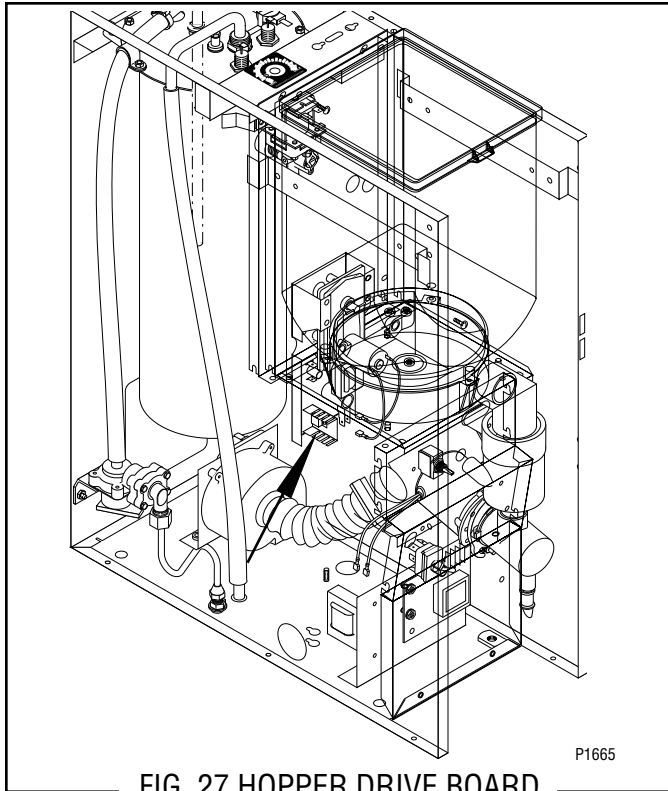

FIG. 27 HOPPER DRIVE BOARD
6. Pull the frother (6) off the motor shaft. Notice the flat side on the shaft and the matching flat inside the frother. It is important that these two flats are lined up when reassembling.
7. Slip the o-ring (5) off the whipper chamber receptacle (8).
9. Remove the two nuts (7) securing whipper chamber receptacle (8) and whipper motor (10) to the front panel.
- NOTE:** To remove the receptacle only, rotate clockwise until the receptacle clears the nuts (7) and slides off of the motor shaft.
11. Slide the slinger (9) off of the motor shaft.
13. Install new motor (10) on rear of front panel and secure with two nuts (7) and connect black leads on the motor to the main wiring harness. Refer to Fig. 27 when reconnecting wires
14. Slide slinger (9) onto the motor shaft flush against the front panel.
17. Slide whipper chamber receptacle with seal (8) and o-ring (5) on to the motor shaft.
18. Rotate the receptacle with seal (8) counterclockwise until it snaps into place on the motor mounting nuts (7).
19. Push frother (6) onto the motor shaft, making sure the flat in the frother (6) lines up with the flat on the motor shaft.
20. Install whipper chamber (4) on the whipper chamber receptacle (8) by twisting counterclockwise until the tabs on the whipper chamber (4) lock with the tabs on the whipper chamber receptacle (8). Be sure dispense port is pointing down.
21. Install dispense tip (3) into the bottom of the whipper chamber (4).
22. Slip the mixing chamber (2) onto the mixing chamber water inlet tube far enough so the mixing chamber (2) will seat inside the whipper chamber (4).
23. Install the steam collector (1) onto the mixing chamber (2) by pushing down and toward the dispenser while twisting until the flange on the steam collector lines up with the slot in the front panel.
#### Removal and Replacement: (Refer to Fig. 27)